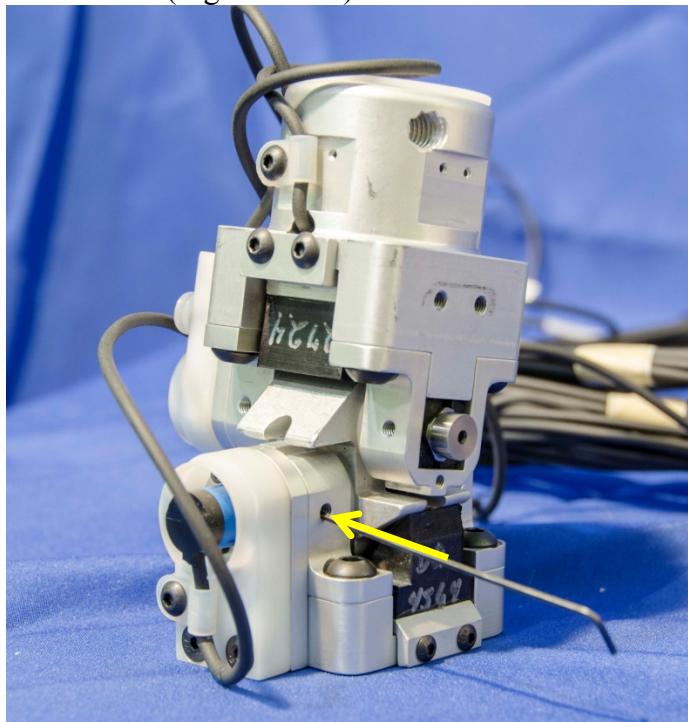

Figure 12-48. Install X-axis potentiometer set-screw
12.2.2.30 Install an M3 x 0.5 x 3 SHSS against the X-axis potentiometer through the left side access hole (Figure 12-48).